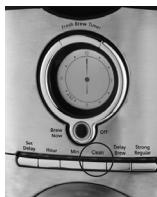

Figure 10
- Press the CLEAN button until the red CLEAN indicator light turns on (Figure 10). For your convenience the cleaning cycle is automatic. The entire cycle will take 45-60 minutes to complete. During the cleaning your coffeemaker will: